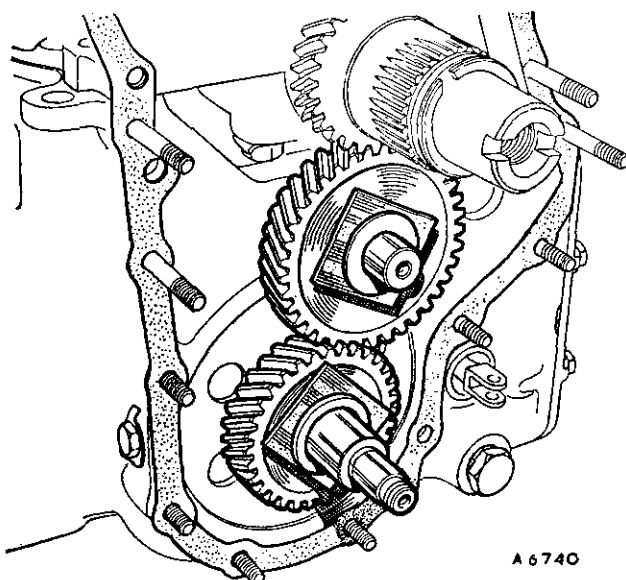

Fig. Aa.13
- (24) Fit input Service tool 18G 1089 interposed with a dental wax washer (Fig. Aa.13).